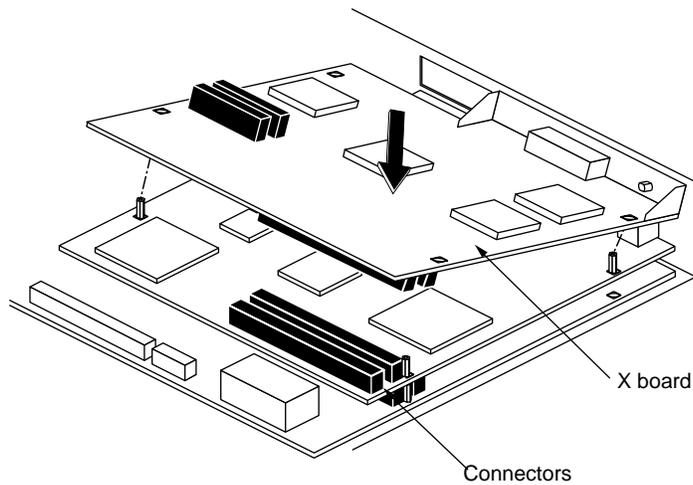

Figure 2-22 Positioning the X Board Over the Z Board
- Grasp the X board by the sides, with the two male connectors on the underside, as shown in Figure 2-22.
- Loosely place the X board on top of the Z board so that the two male connectors on the underside of the X board align with the two female connectors on the Z board, as shown in Figure 2-22.